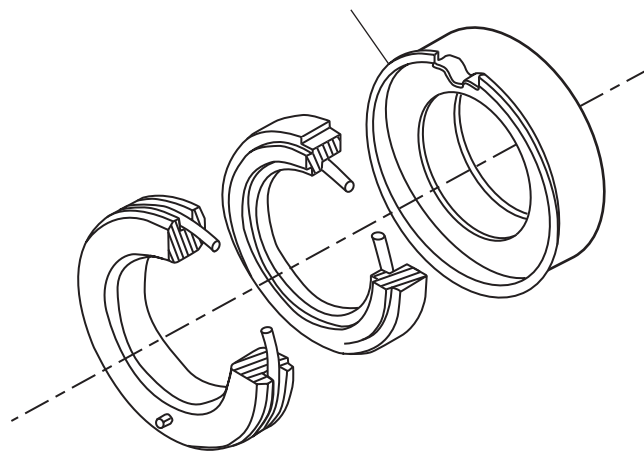

Figure 4. Mechanical Seal
12. Install the mechanical seal (figure 1, item 34) on the rotor shaft assembly (figure 1, item 12) as illustrated in figure 4.
20. Install the mechanical seal (figure 1, item 35) on the rotor and shaft assembly (figure 1, item 12) as illustrated in figure 4.